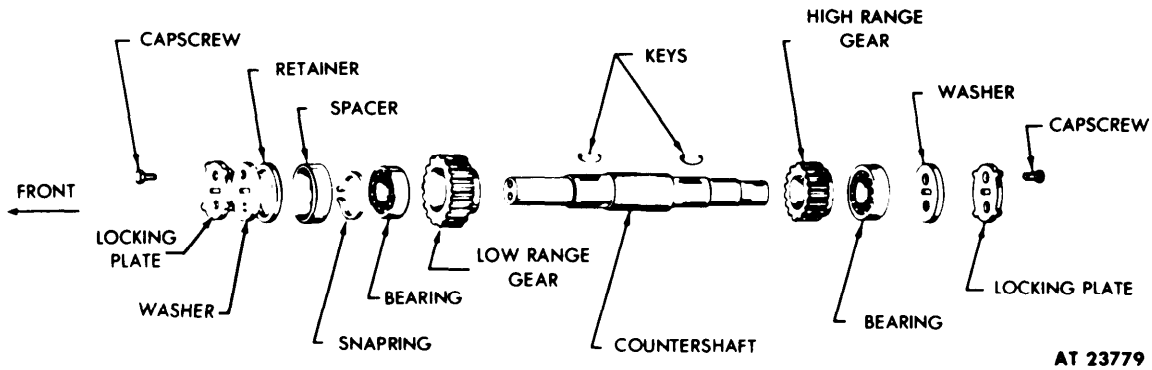

Figure 4-15. Countershaft Disassembly — Exploded View.
(1) Using a suitable tool, bend the front and rear locking plate ears away from capscrews and remove capscrews, locking plates, washers, and spacer (front only). (See fig. 4-15.)
(2) Place countershaft in a press with the countershaft high range gear (fig. 4-15) and rear bearing up. Place support bars beneath the high range gear and rear bearing. Remove woodruff key.
(3) Place the countershaft assembly in an arbor press with the low range gear (fig. 4-15) and front bearing up. Place support bars beneath the low range gear. Press shaft from countershaft low range gear and front bearing. Snapping and retainer is removed with transfer case cover. Remove woodruff key.
- f. Countershaft (fig. 4-15).